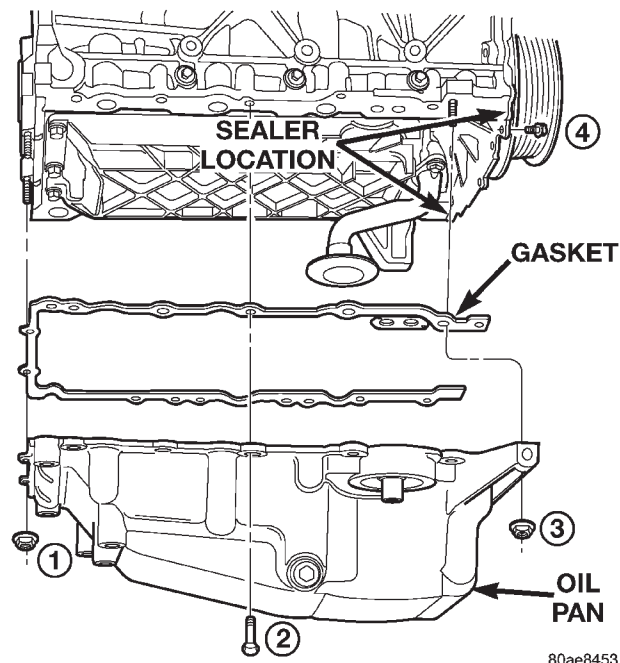

Fig. 69 Oil Pan—Removal and Installation
(5) Remove oil pan attaching fasteners. Remove oil pan and gasket (Fig. 69).
- (1) Clean oil pan and sealing surfaces. Inspect oil pan and timing chain cover gaskets and replace as necessary.
- (2) Apply a 1/8 inch bead of Mopar® Silicone Rubber Adhesive Sealant to the front T-Joints (oil pan gasket to timing cover gasket interface) (Fig. 69).
- (3) Install oil pan gasket to block.
- (4) Install oil pan and fasteners (Fig. 69) using the following tightening sequence: